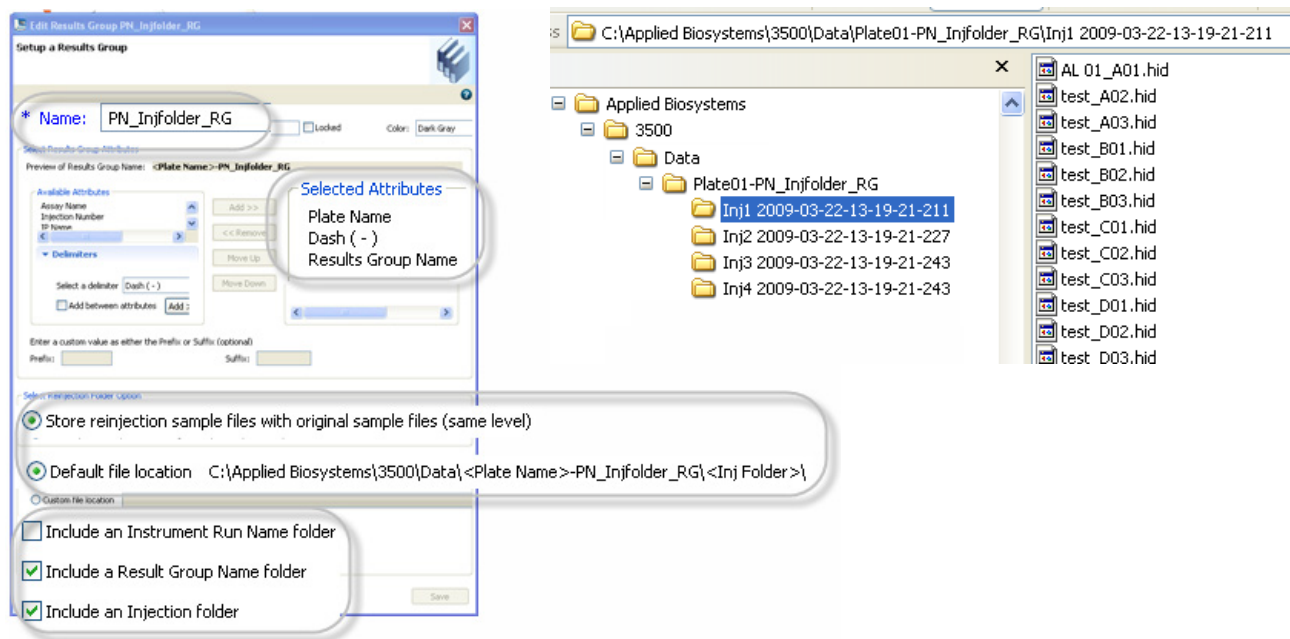

Figure 15 PN\_Injfolder\_RG results group
- Figure 15 on page 160 shows the factory-provided PN\_Injfolder\_RG results group and the folders created when it is used. This results group creates a folder for each injection.